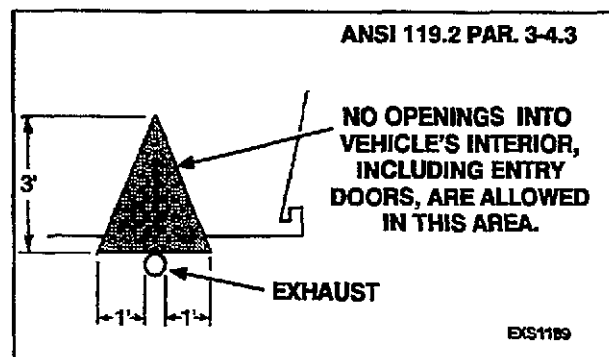

FIGURE 3-21. TAIL PIPE LOCATION
⚠WARNING *Exhaust gas presents the hazard of severe personal injury or death. Do not terminate the exhaust pipe under the vehicle. The exhaust pipe must not terminate so that any vent, window, or opening into the living area is within the triangular area shown in Figure 3-21. Read the Important safety precautions in the Exhaust Systems section.*
- Be aware that any vent, window, or opening that can be opened and that is not permanently sealed from the vehicle living space, can be an avenue for carbon monoxide. The tail pipe must not terminate so that any vent, window, or opening into the living area is within the triangular area shown in Figure 3-21.